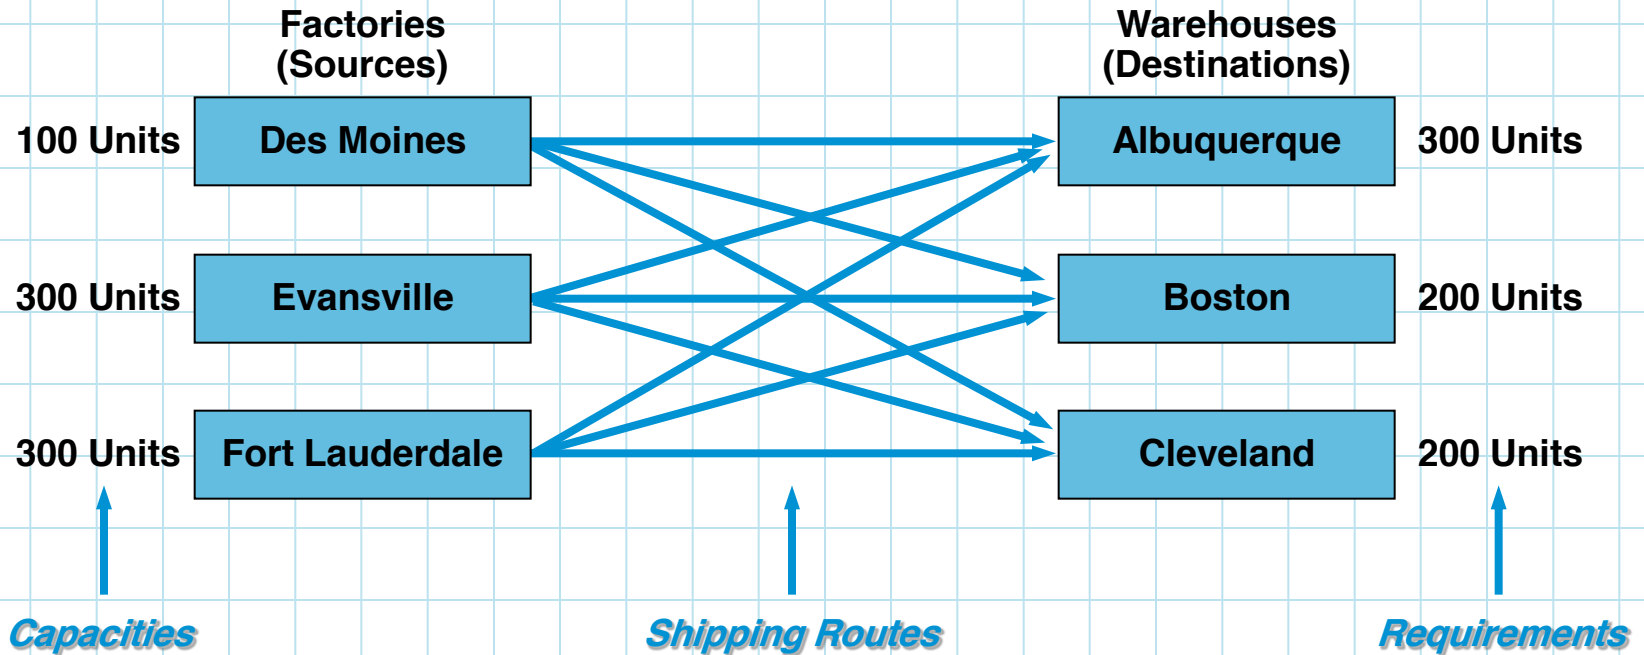

Figure 10.1
- **Estimates of the monthly production capacity of each factory and the desks needed at each warehouse are shown in Figure 10.1**